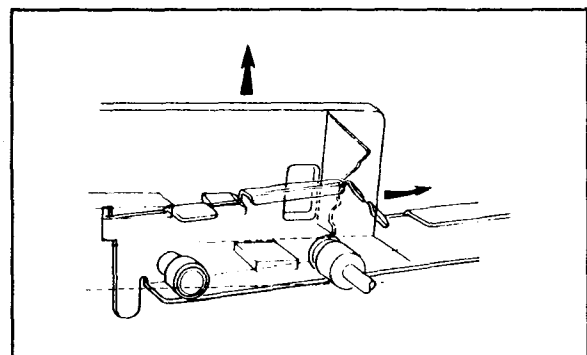

Figure S-3b
- * The tab near the back of the tray should align with the cut-out in the top of the guide rail. See Figure S-3b.